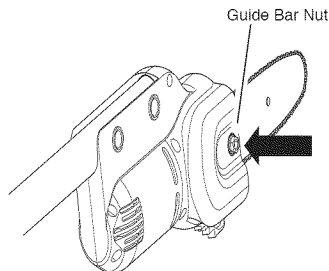

Figure 4 - Loosen Guide Bar Nut
1. Before adjusting chain, make sure guide bar nut is only finger tight (see Figure 4).